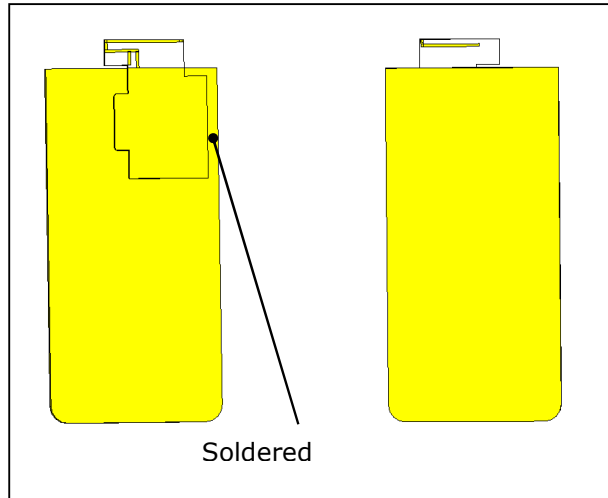

Figure 10 - Flat board-to-board connection
- Use standard surface mounting techniques for the board when soldered flat to a PCB. Follow the GND clearance guidelines on the carrier board. See Figure 10 - Flat board-to-board connection.
If the ICC-A-1 module needs to be attached to another PCB during the integration process, the connections shall be solid and stable to prevent unwanted effects on the antenna performance. See Figure 10 and Figure 10 for possible attachment methods of the ICC-A-1 PCB to carrier board.